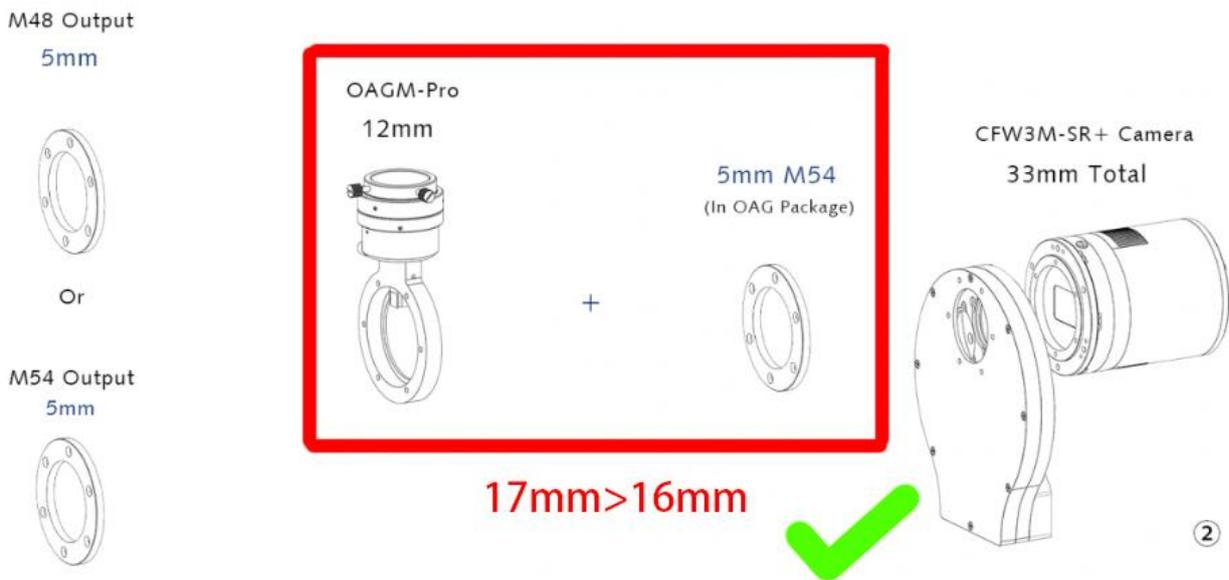
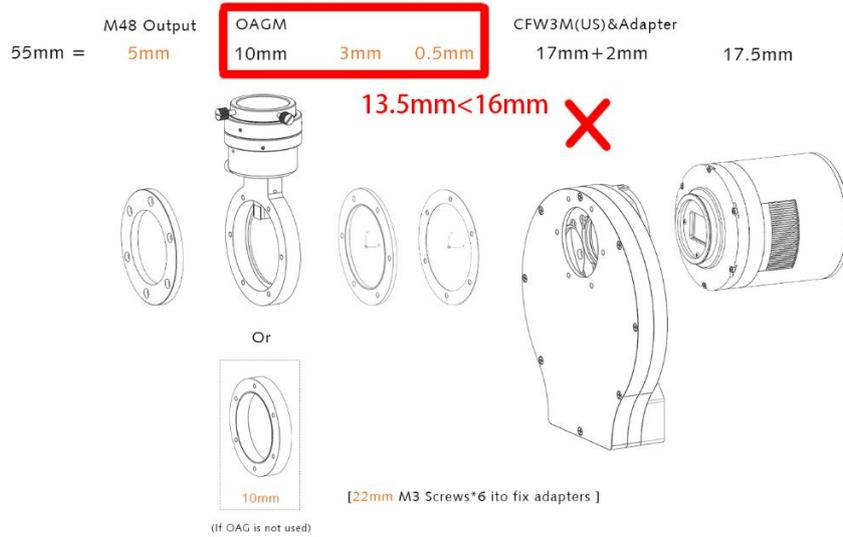

Figure 6
Figure 7
**4:** The total back focus distance of the equipment between the ETA and the filter wheel must be at least 16mm. For example, as shown in Figure 6, this setup meets the installation requirement, whereas the setup in Figure 7 does not.